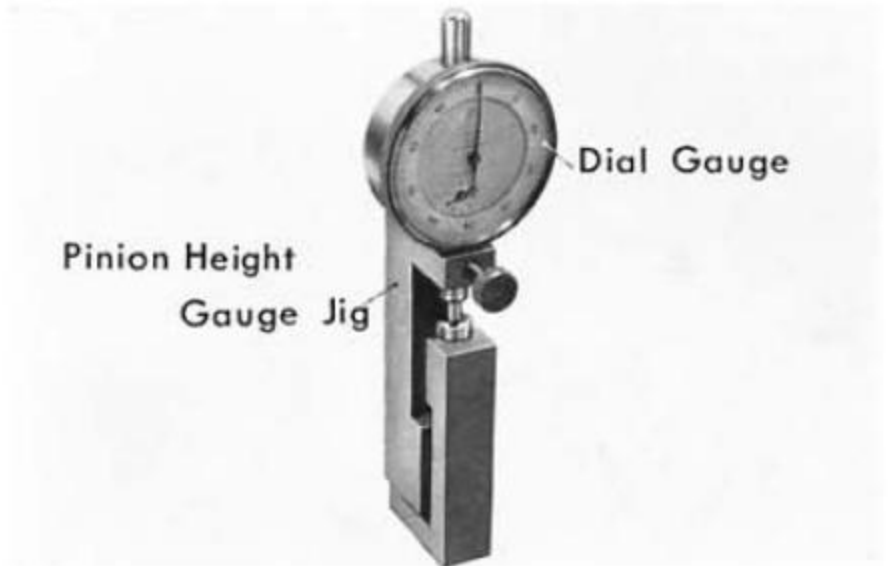

Fig. 8C-16
19. Set the dial gauge and jig on the top face of pinion gear, lightly rotate the adjuster wrench to set the gauge reading to "0" (marked P0) or "0.02" (marked P+20) (Fig. 8C-17).